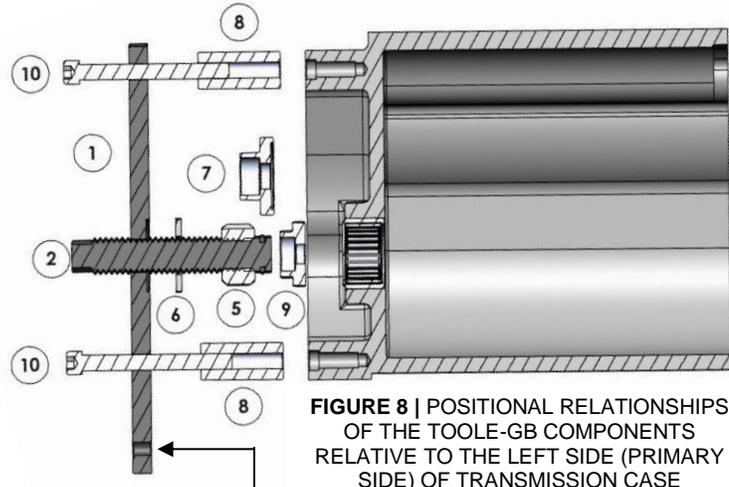
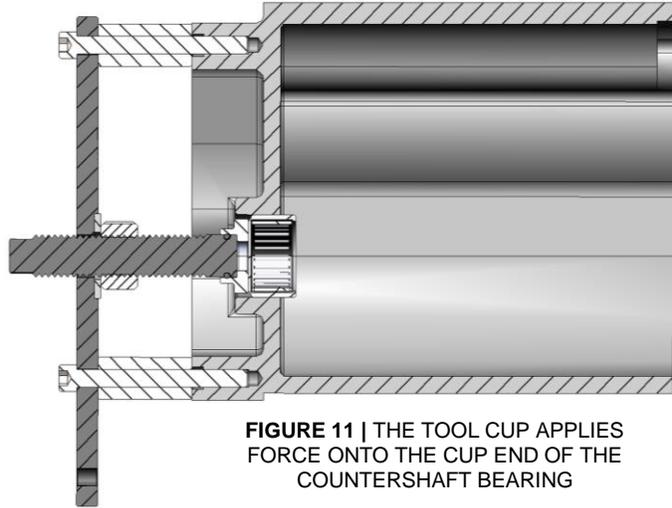

FIGURE 8 | POSITIONAL RELATIONSHIPS OF THE TOOLE-GB COMPONENTS RELATIVE TO THE LEFT SIDE (PRIMARY SIDE) OF TRANSMISSION CASE
FIGURE 11 | THE TOOL CUP APPLIES FORCE ONTO THE CUP END OF THE COUNTERSHAFT BEARING
1. Reference figure 8 for the positional relationships of the TOOLE-GB tool components required to remove the countershaft bearing from the case. Loosely assemble the support plate (1) with spacers (8), cap screws (10), threaded shaft (2), and cup (9). Push the cup (9) onto the O-ring end of the threaded shaft (2) until it snaps into position.
- With the old countershaft bearing removed, loosen the nut (5) to allow removal of the cup (9) from the threaded shaft (2). Wipe out the countershaft bearing bore in the case with a clean rag and apply a thin film of oil for installing the new bearing. Install cup (7) on the end of the threaded shaft (2) until it fully seats. Place the new bearing between the cup (7) and the case as shown in figure 8. Snug the threaded shaft (2) by hand until the bearing registers squarely in the bore of the case; see figure 11.